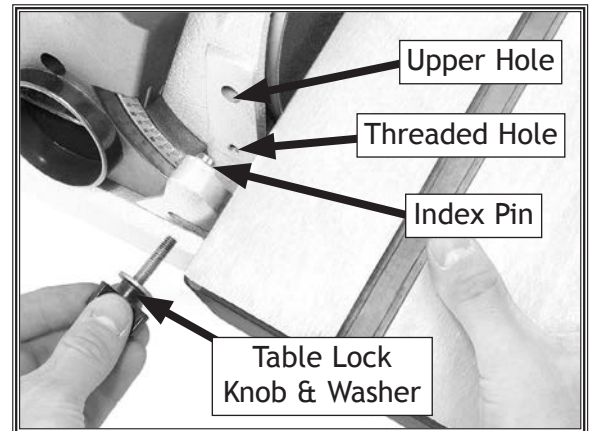

Figure 9. Installing work table.
3. Install 6mm fender washer on table lock knob, as shown in **Figure 9**.
4. Insert work table index pin into upper hole on sander base (see **Figure 9**).